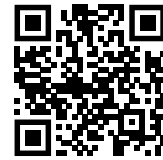

Fig. 101
- ▶ Öppna Liebherr SmartMonitoring Dashboard. (se Fig. 101)